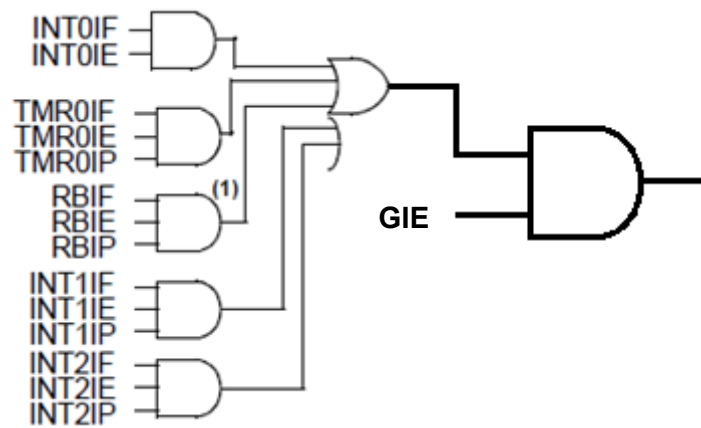

Figure A3 (a) / Rajah A3 (a)
- CLO1 (a) Based on Figure A3 (a), discuss the instructions to enable INT1 and INT2 external hardware interrupt in PIC18.